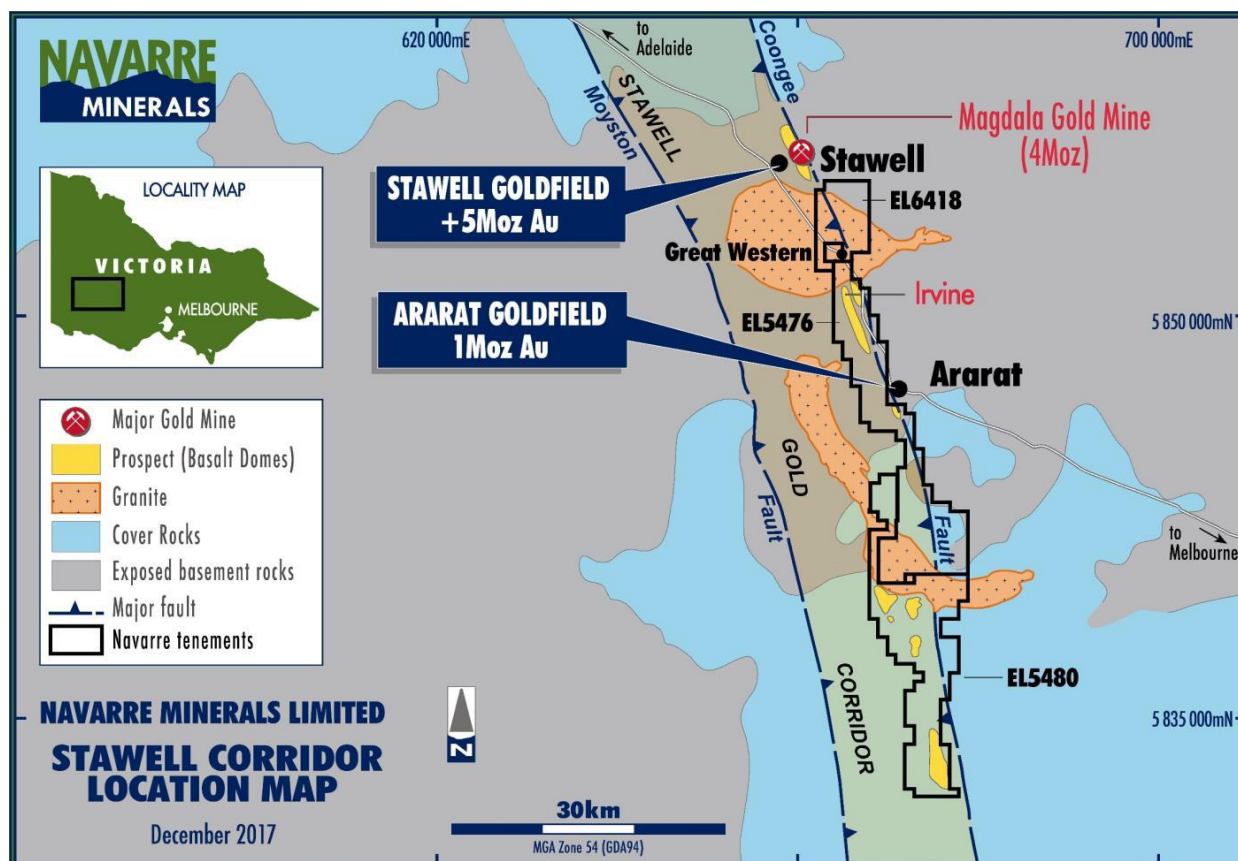

Figure 1: Stawell Gold Corridor location map showing proximity of the Irvine Gold Project to Stawell's 4Moz Magdala gold deposit.
Navarre Minerals Limited (ASX Code: NML) (**Navarre**) is pleased to announce that it has intersected significant high-grade gold mineralisation in its recently completed diamond drilling (DD) program at its flagship Irvine Gold Project, in western Victoria (Figure 1).